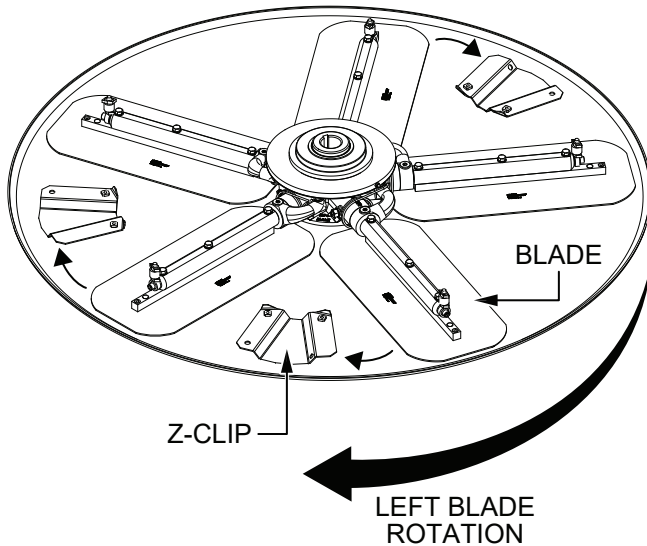

Figure 55. Blade Rotation
2. Rotate the blades into position under the Z-clips (Figure 55). Make sure the blades are rotated in the same direction as when the machine is in operation, or use the engine to rotate the blades into position.